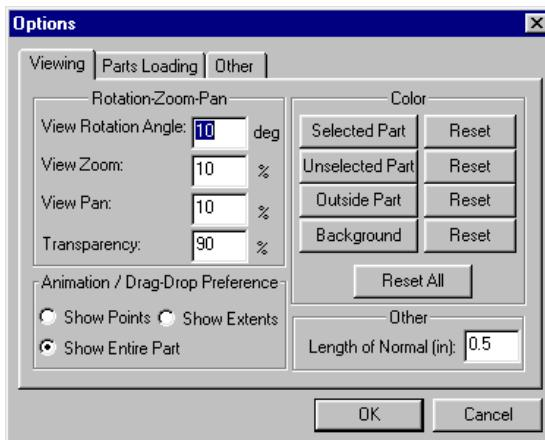

Figure 101. Options Dialog (Viewing Tab)
- You will see the dialog illustrated in Figure 101.